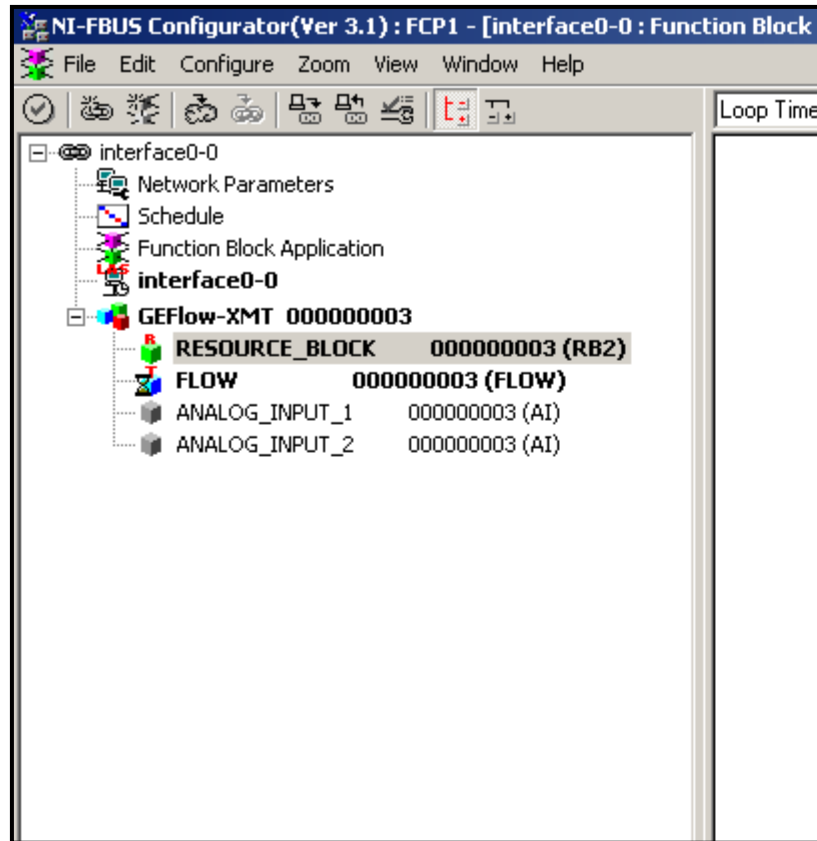

Figure 40: Configuration Utility Setup Example
Figure 40 below shows the Configuration Utility with a flowmeter on the network (Panametrics Flow-XMT).
- 1. Double click on the AI block for which you wish to set the units (**ANALOG_INPUT_1** or **ANALOG_INPUT_2** in the tree under **GEFlow-XMT**; see *Figure 40* on page 110).
1. Double click on the **FLOW** transducer block (in the tree under **GEFlow-XMT**; see *Figure 40 on page 110*).